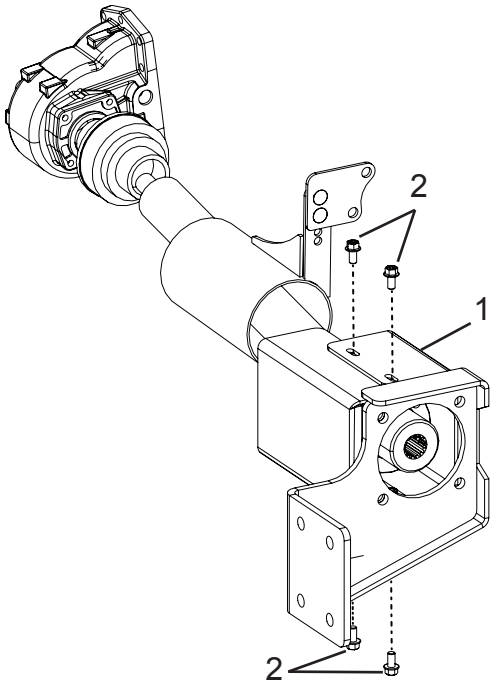

Figure 6
9. Install the existing half of the pump mount cover (Figure 6, Item 1) using the retained hardware on the top and bottom (Figure 6, Item 2). Use a torque wrench to torque the hardware to 28 ft.-lbs.